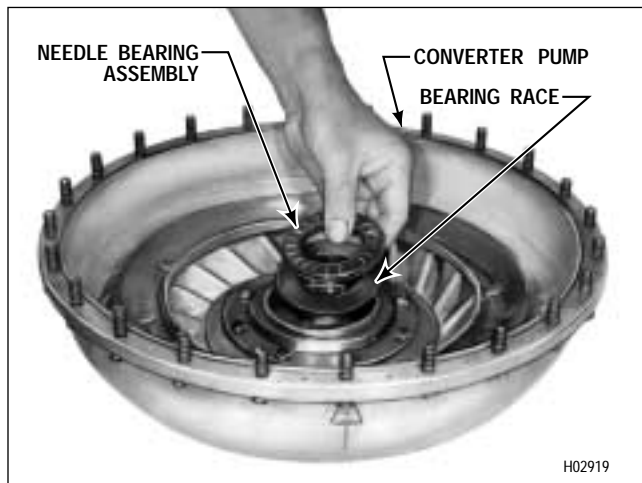

Figure 6-8. Removing (or Installing) Torque Converter Pump Bearing and Race (AT 543)
(10) Remove the needle bearing assembly and bearing race from the converter pump (Figure 6-8).
(11) Flatten the corners of lockstrips 29 (Foldout 7,A). Remove eight bolts 28 and the lockstrips.
(12) Remove hub 30 and gasket 31 from converter pump 35.
(13) Do not remove bolts 36 unless new bolts are needed.
(4) Install the bearing race and needle bearing assembly into the converter pump hub (Figure 6-8).